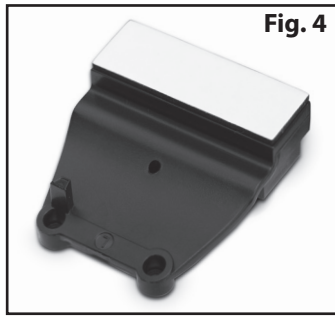

Fig. 4
1. Remove the 1.6x5mm button-head screws (2) from the driver side (left side) door handle mount (K). Remove the mount.
2. Peel the backing from the included adhesive foam tape and attach it to the flat surface on the back of the distribution block mount (L) (Fig. 4). *Do not remove the backing from the other side of the tape yet.*